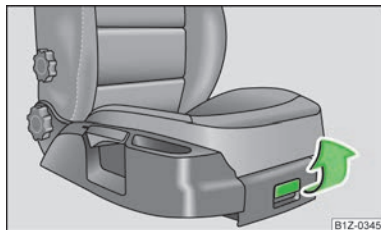

Fig. 77
- To open the lid, pull the handle » Fig. 77.